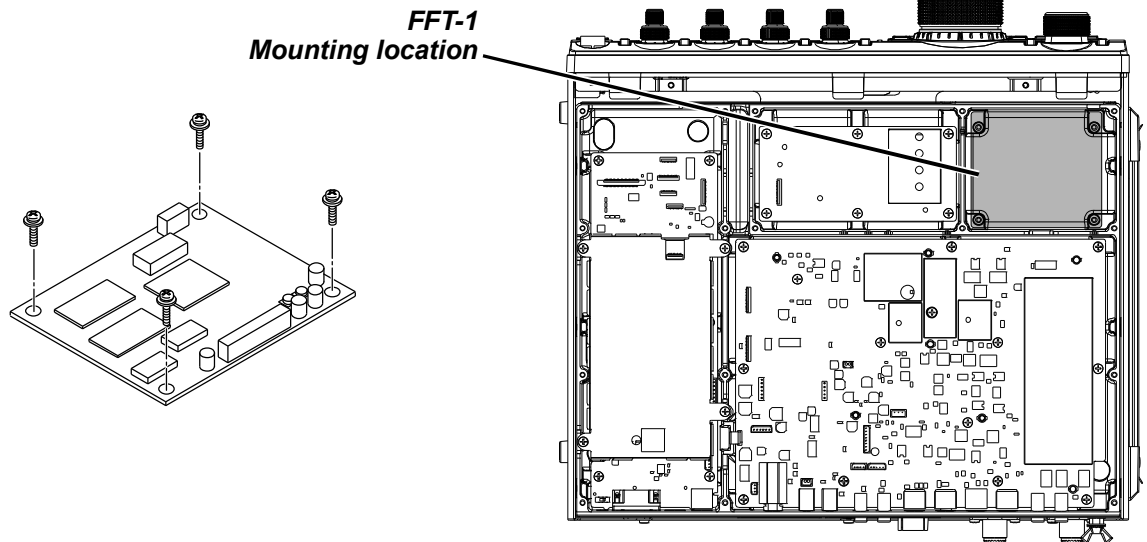

FIGURE 2
4. Refer to Figure 2 for the mounting location for the **FFT-1**.